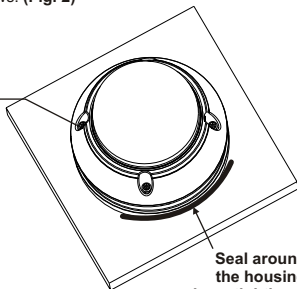

Figure 2
4. Closing the housing using the loosen torx screws. (Fig. 2)